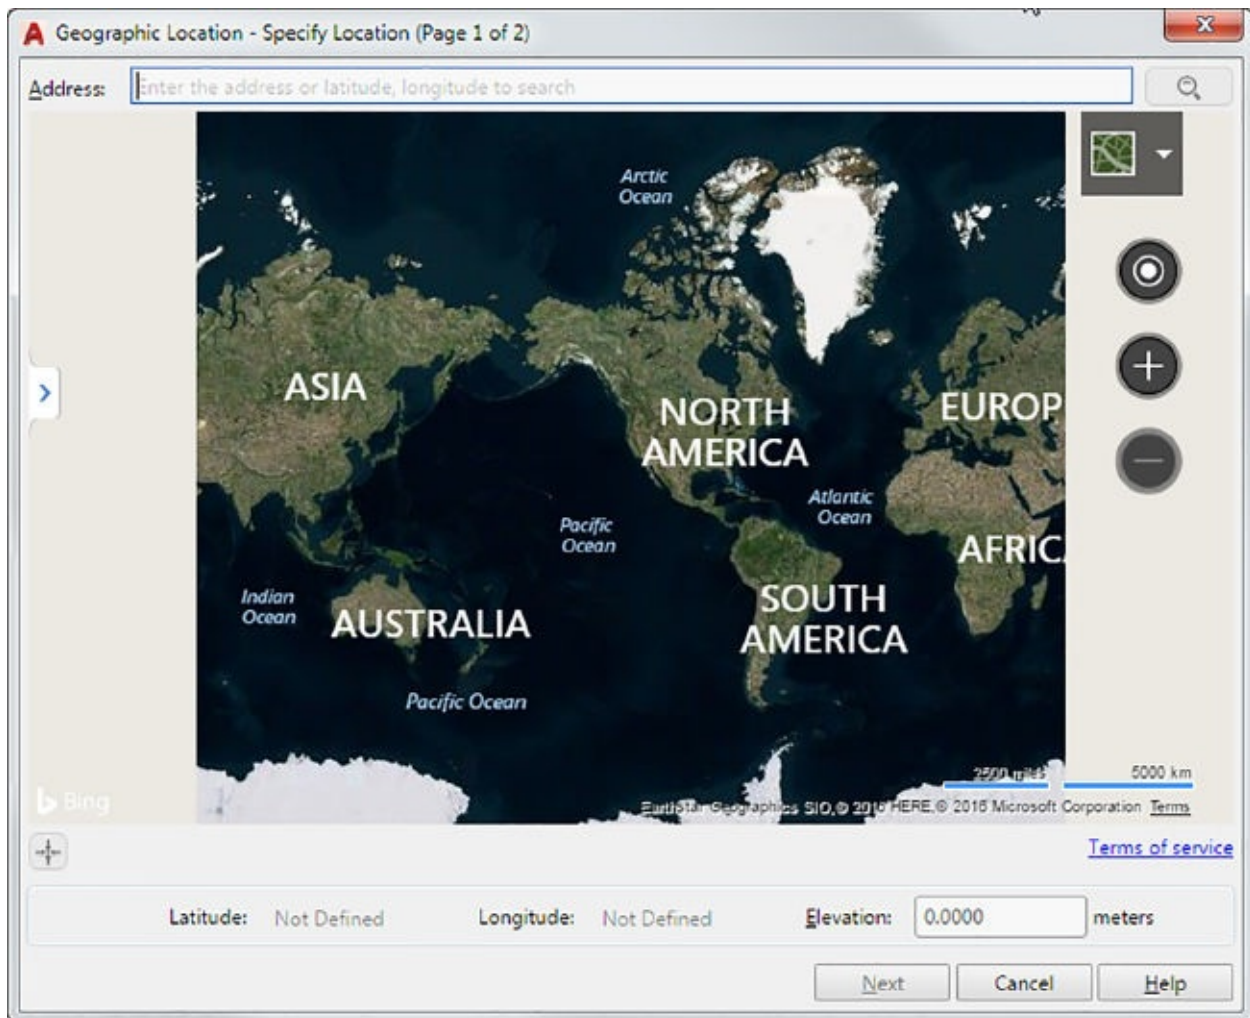

FIGURE 13.19 The Geographic Location dialog box
3. The Geographic Location dialog box appears (see Figure 13.19). Here, you can enter an address, a location name, or the latitude and longitude of a site.